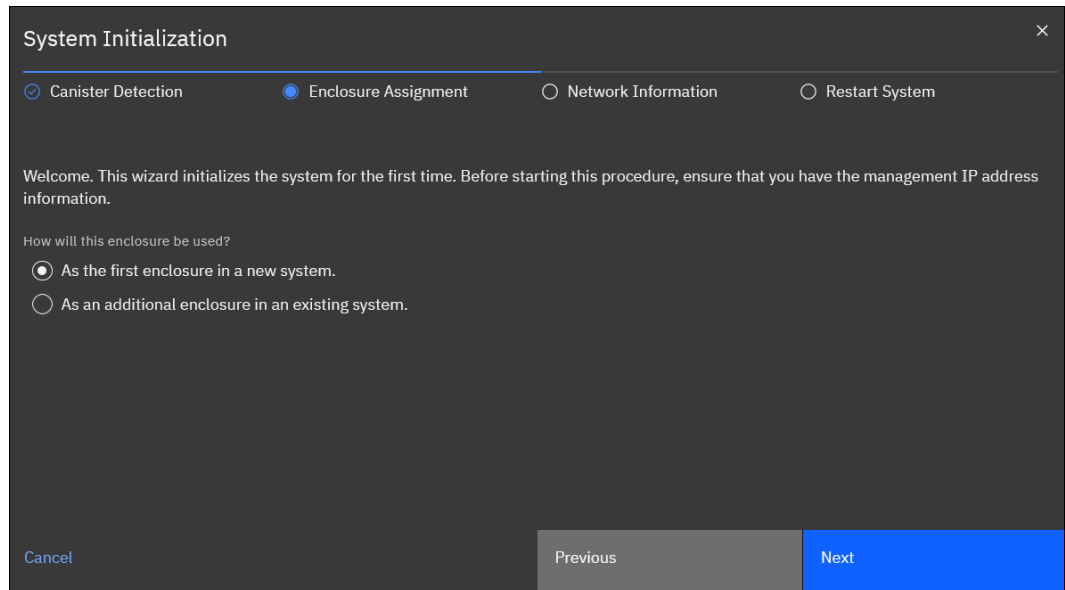

Figure 2-11 System Initialization: Initialize the first enclosure
5. The System Initialization wizard shows the enclosure assignment. Select **As the first enclosure in a new system**, as shown in Figure 2-11. Click **Next**.